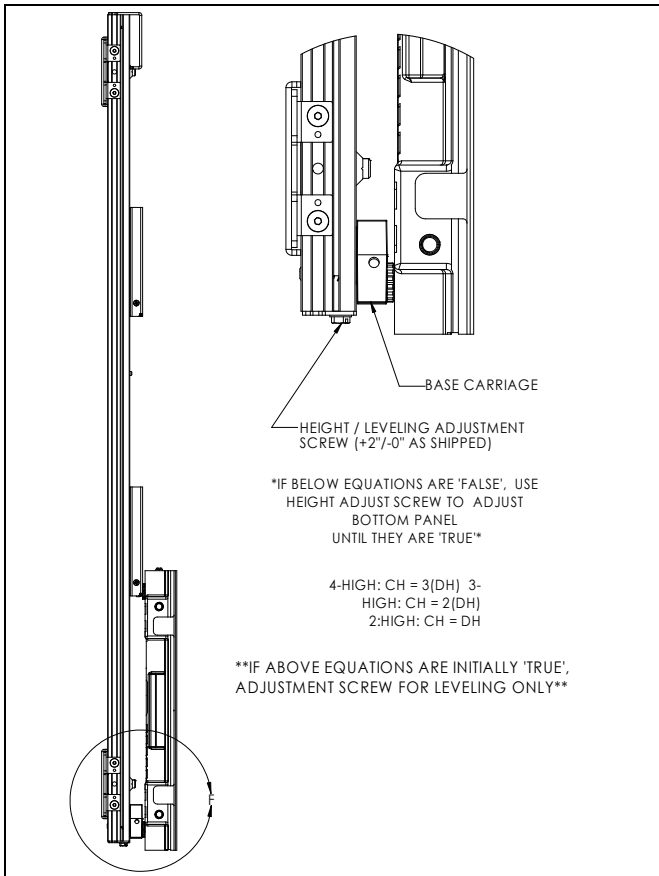

Figure 12
- Coverage height (CH) = 26.85" (682.0mm)
- Display height (DH) = 13.29" (337.5mm)
32. If height adjustment is required for the displays to cover the mount, remove display and make the minimum height adjustment determined in Step 31 by adjusting the height adjustment screws using a 5/16" socket driver. (See Figure 12)
4. Make any necessary adjustments using the height/leveling adjustment screws on the bottom of the mounts. (See Figure 12)